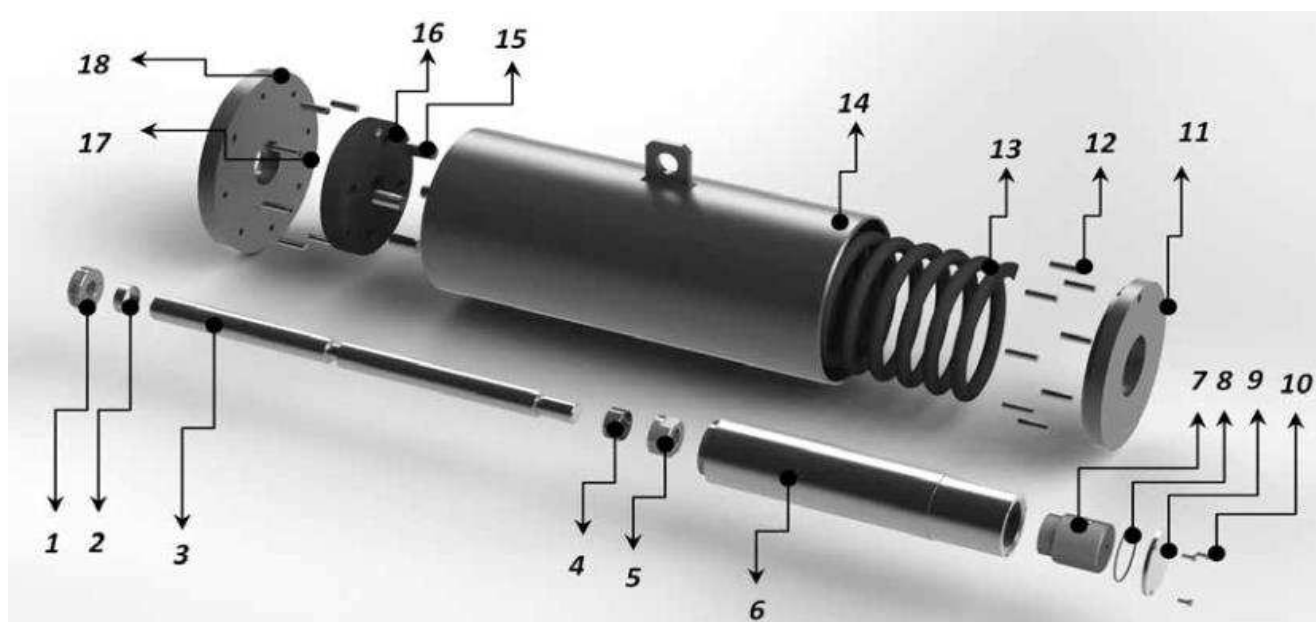

Figure 24: Spring Can Exploded View
- 4.4.3. The reference drawings for the instructions reported in the following paragraphs are the exploded views of single acting and double acting actuators, included as Figures 24, 25, 26 and 27.
The removal of the spring container from the actuator has to be performed through the following steps. The reference drawing are Figures 24, 25 and 26.